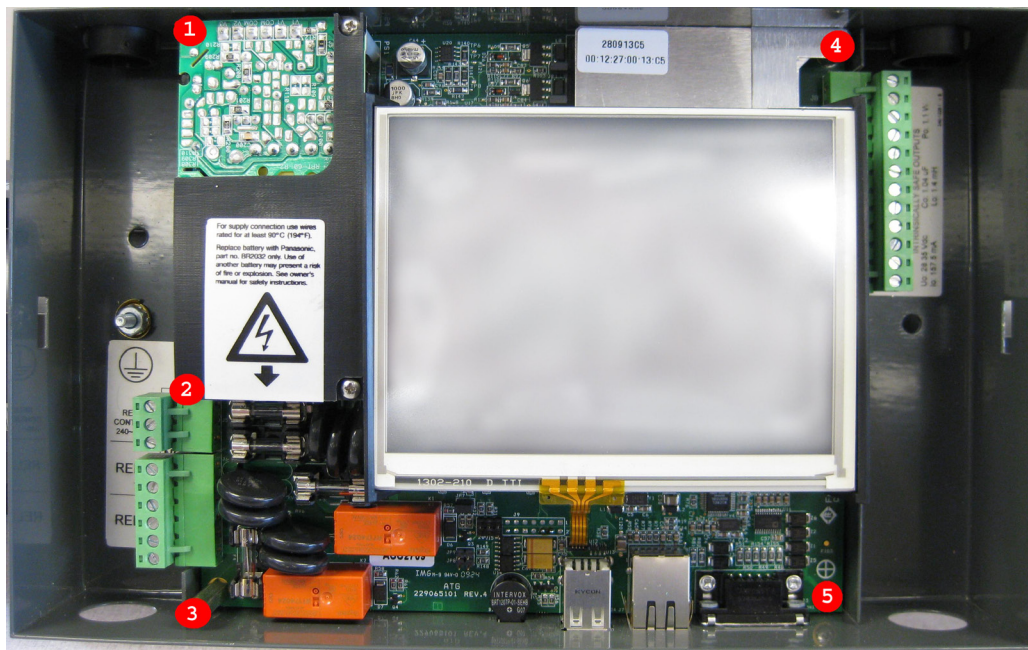

Figure 2: System Board Fastener Locations
4. Loosen the two screws on the left hand side of the power brick (1 and 2 in Figure 2). Do not pull the screws out.
5. Remove the two screws on the right hand side of the board (4 and 5 in Figure 2) and set them aside with the Intrinsically Safe shield and the display ground strap.
6. Remove the standoffs from the top right and bottom left corners of the board (3 and 4 in Figure 2).
Before placing the replacement board in the enclosure, first remove the two lock nuts from the left hand side of the power block/brick (1 and 2 in Figure 2) being careful that the screws do not drop out. Use the two nuts to secure the two screws on the unit that was removed. There will also be a locknut under the standoff in location 4.
2. Tighten the two screws on the left hand side of the power supply (1 and 2 on Figure 2).
3. Install the long standoff in the bottom left hand corner and the short standoff in the top right hand corner (3 and 4 in Figure 2).
4. Install one screw with lock washer in the bottom right hand corner (5 in Figure 2).
5. Place the intrinsically safe shield and the ground strap over the potted area so that the hole is aligned with the hole in the short standoff and fasten with the remaining screw with lock washer (4 in Figure 2). The tab of the ground strap must be inserted between the display and the display support during reassembly. Ensure the tab of the ground strap is pushed into the crook of the display mount and not in contact with the glass of the display.